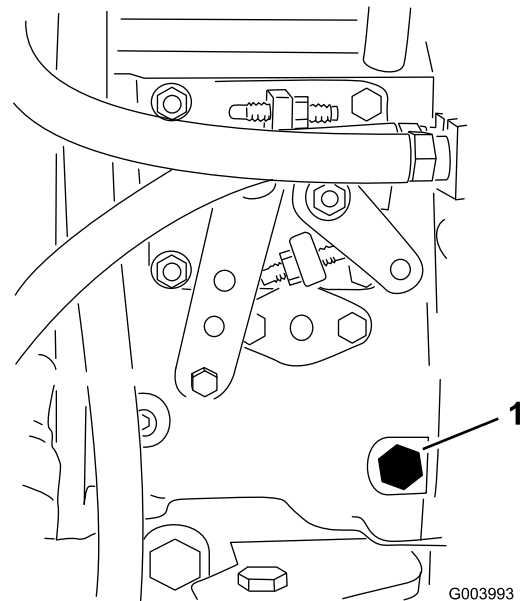

Figure 21
3. Open the air bleed screw on the fuel injection pump (Figure 21) with a 12 mm wrench.